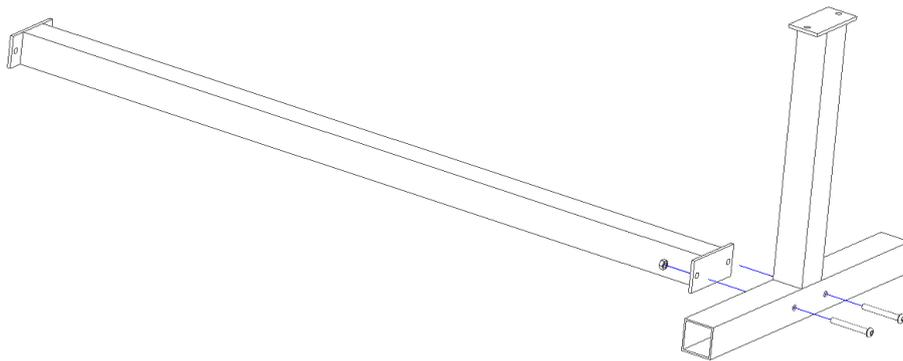

Figure 3
Attach the front leg and base (2) to the bottom bar (1) using two M8x65 hexagon-socket bolts (10) and M8 nuts (11), as shown above (figure 3).